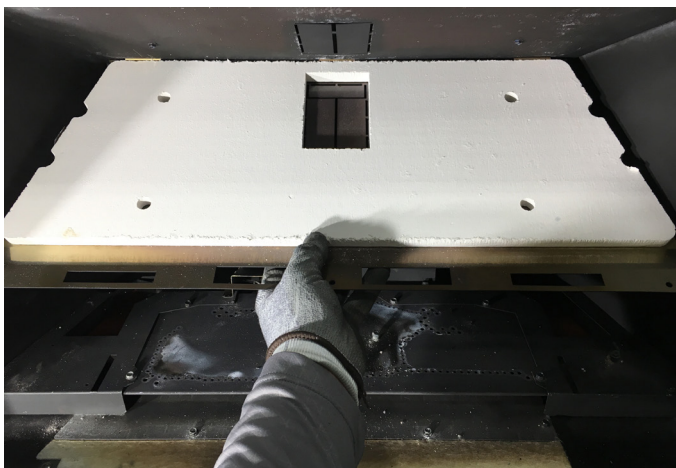

Figure 5.8 Insulation Removal
2. Swing baffle cover and insulation down and slide out from three slots in baffle. See Figure 5.8.